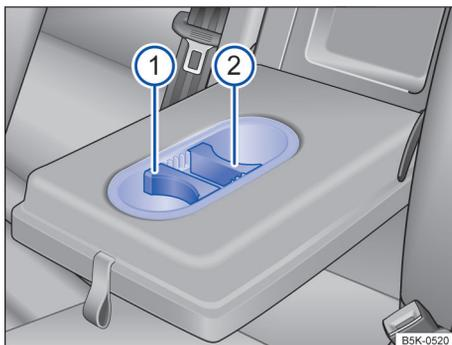

Fig. 137 Cup holders in the rear center armrest (version 2).
- Some cup holders have inserts that can be positioned to hold beverages of different sizes → fig. 137. *To adjust* the cup holder to the size of the cup, pull the inserts ① or ② upward and reposition them to fit the size of the cup.